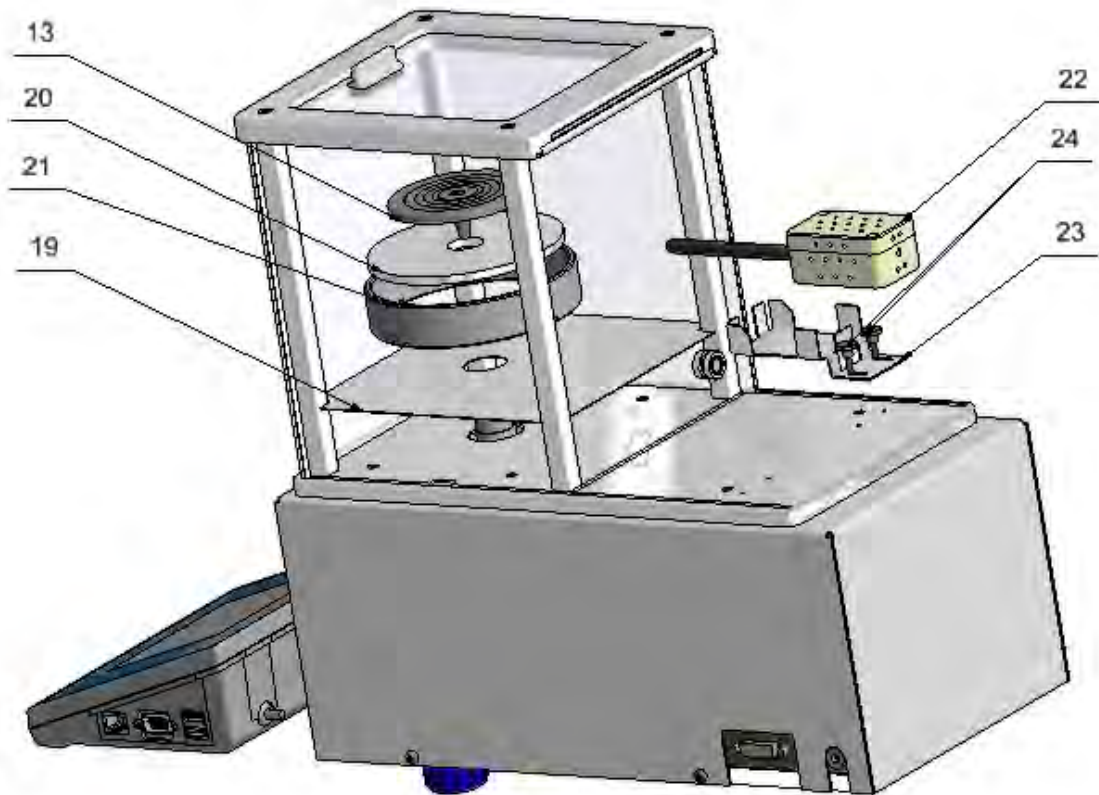

Fig.5
- 12.1. Place metal insert (19), anti-draft shield of the weighing pan (20), pan shield (21), weighing pan with the mandrel (13).
Optionally install THB sensor (22) by inserting it into sensor holder (23), next fix it to the draft shield using two M3 thumb screws (24). (Fig. 5)